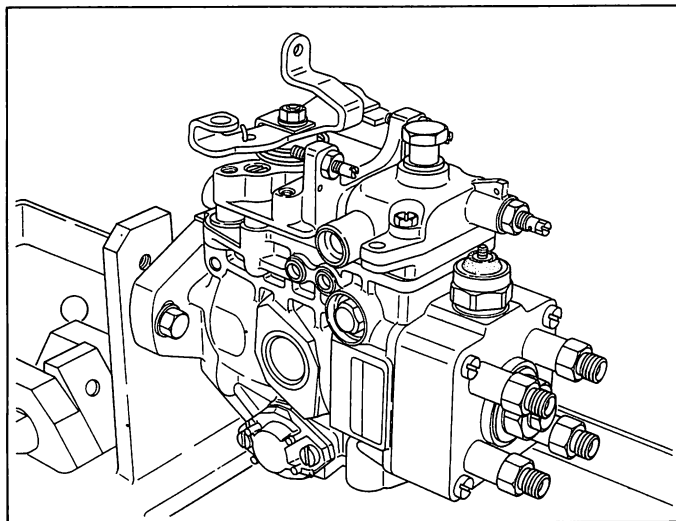

Fig. 98 Installing the overflow valve
Install the overflow valve (136). (Fig. 98)